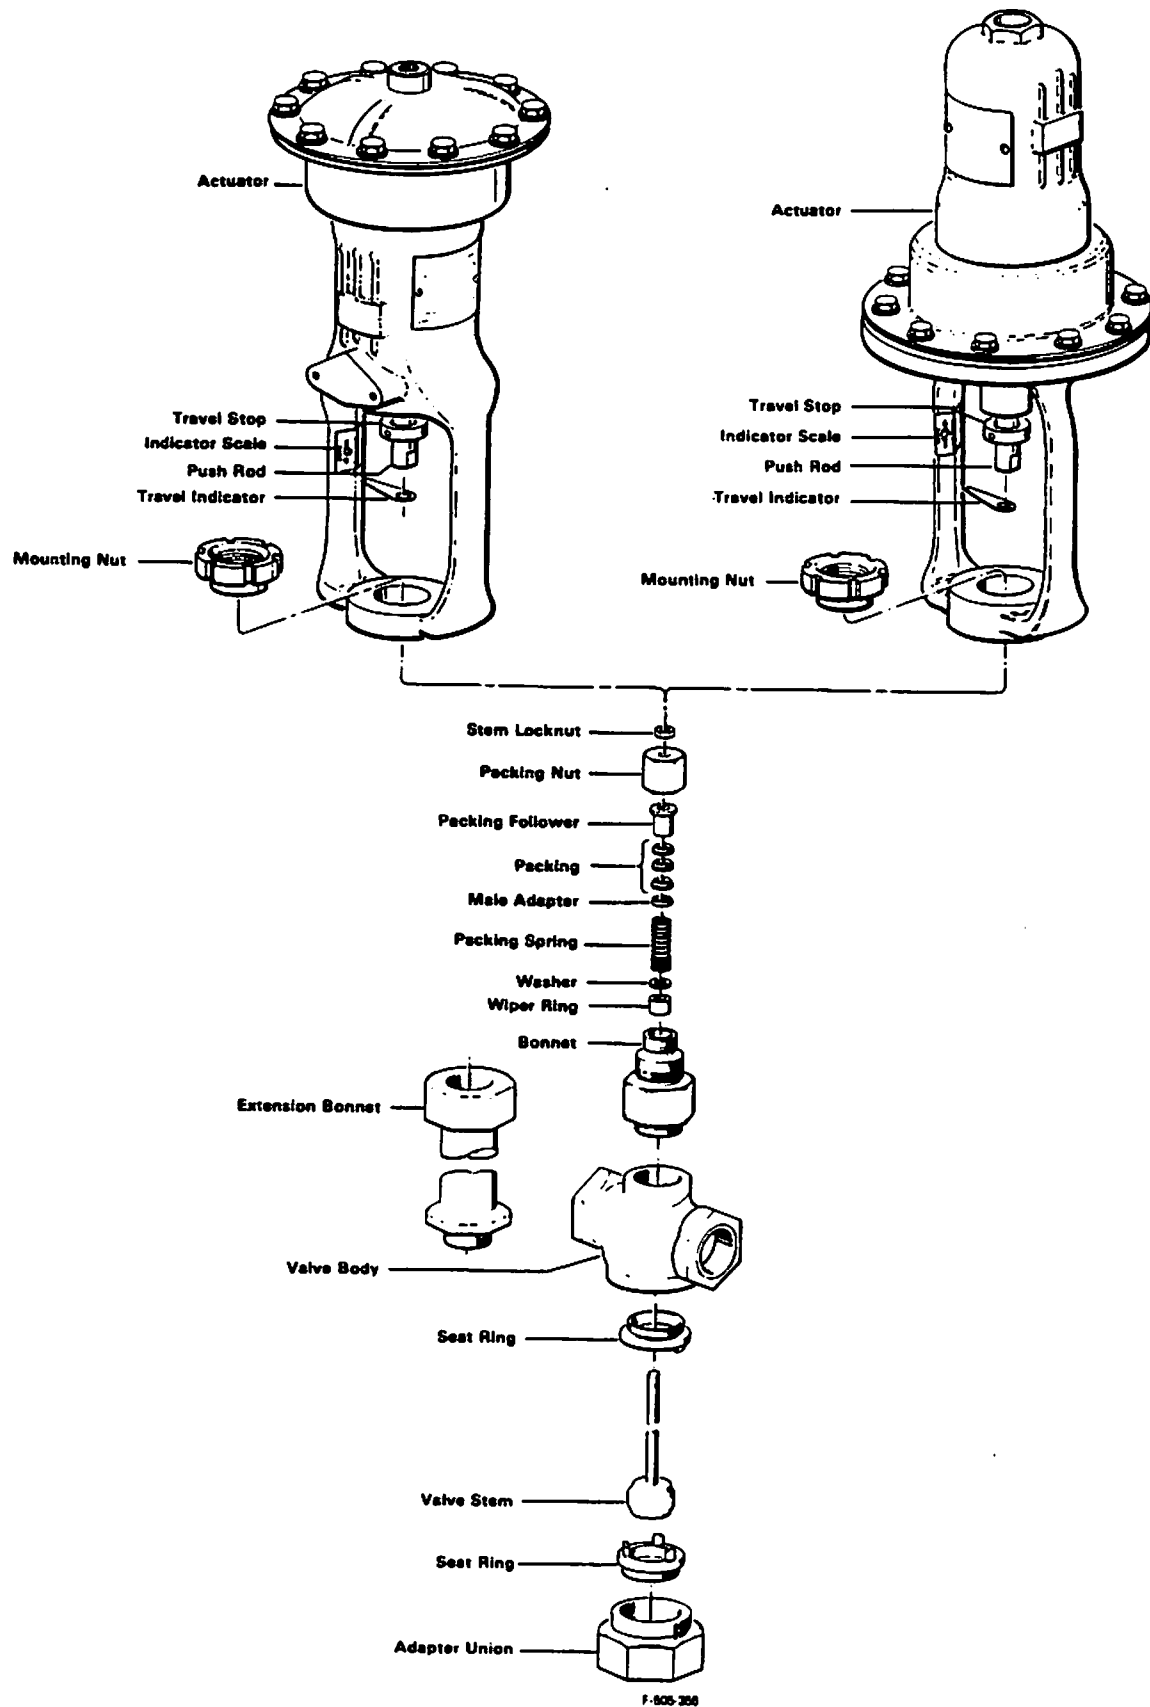

Figure 12. Exploded View of Control Valve
1. Loosen stem locknut, Figure 12.
1. If new seat ring, Figure 12, is to be installed, proceed as follows:
2. Install new valve plug and stem assembly, Figure 12, in bonnet by inserting stem through bottom of valve. Apply coating of Plastic Lead Seal to threads of adapter union and assemble to bottom of valve. Apply coating of Plastic Lead Seal to threads of bonnet, slide bonnet over valve stem and screw into valve body. Tighten cap and bonnet to torque specifications listed in Table 3.